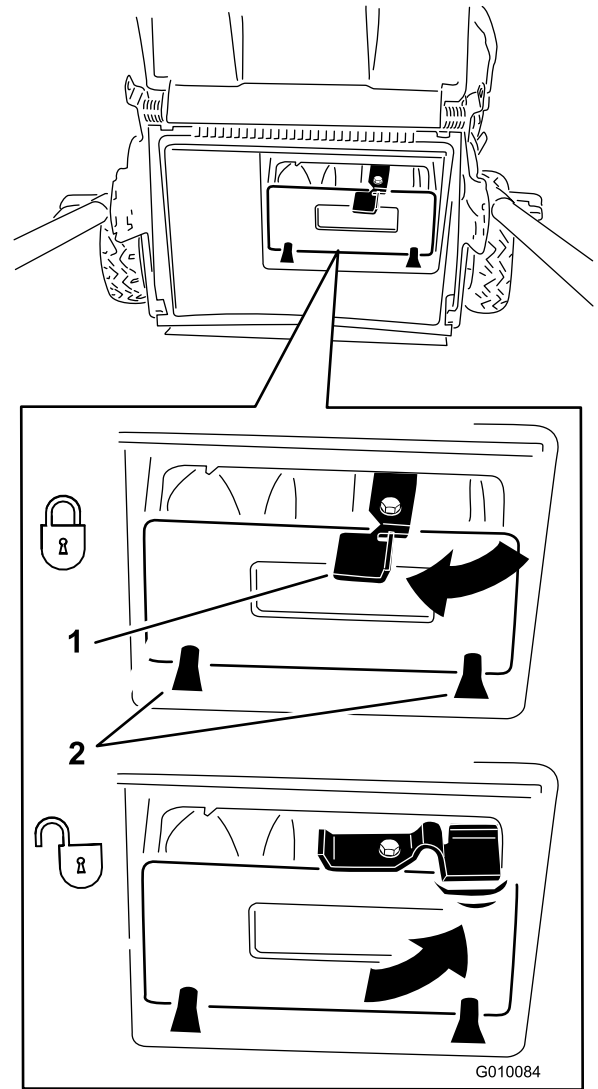

Figure 25
**Important:** Ensure that the rear discharge plug is locked in place. To lock the plug, firmly push the plug in until it snaps into place behind the tabs, and rotate the lever on the plug to the left (Figure 25).
**Note:** To unlock the plug, rotate the lever on the plug to the right (Figure 25).